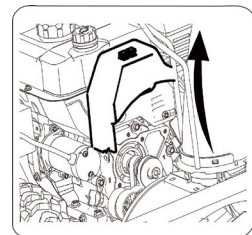

Figure 27
1. Remove the belt cover in the front of the engine by removing the two self-tapping screws. See Figure 27.